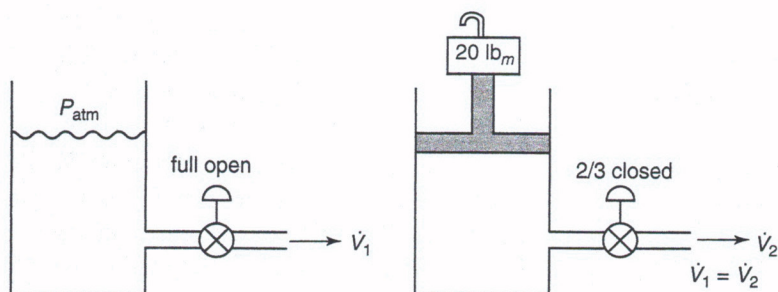

Figure 4.78
43. Figure 4.78 is a tank with a spout from which water can drain in a controlled manner. When the water surface is open to the atmosphere, the water drains at flow rate \dot{V} liters/min. If a piston that seals with the sides of the tank is added to the top and a 20-kg weight is added, the flow rate increases. If we close the valve, we can reduce the flow rate until it is again \dot{V} . We have two situations, then, in which water drains from the tank at flow rate \dot{V} ; what is the difference in the state of the fluid between the two situations? If we poke a hole in the side of the tank, will the flow from the hole be the same in the two different situations? How?